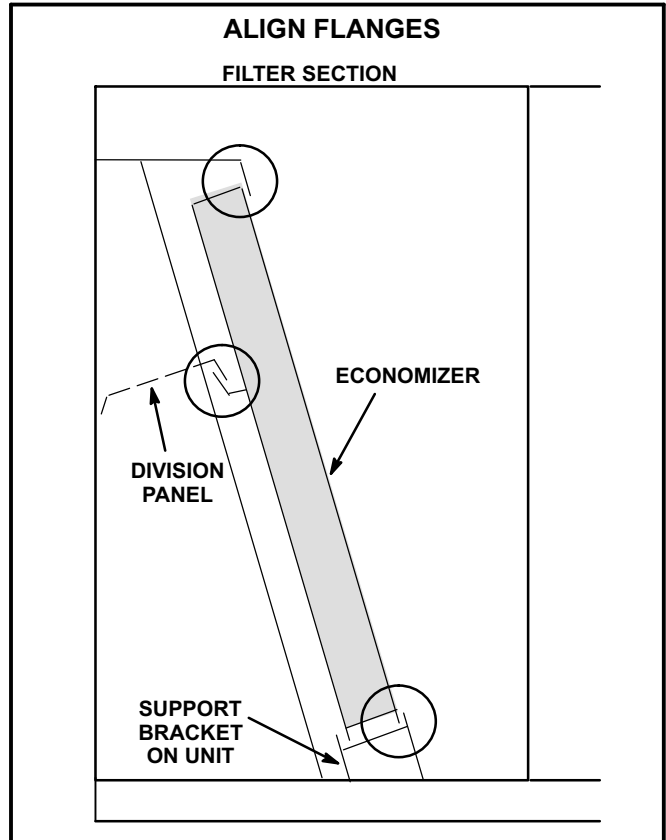
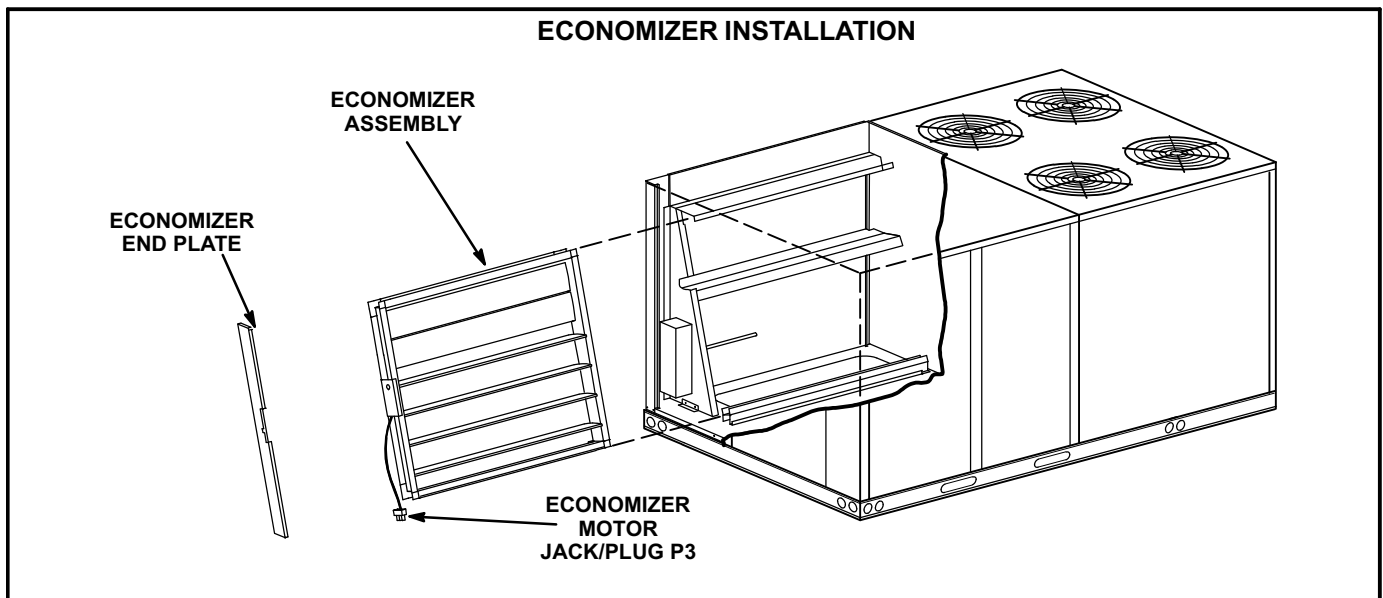

FIGURE 2
FIGURE 1
- 3- Align bottom of economizer with economizer support bracket and slide economizer into unit. See figure 1. Make sure the flanges align as shown in figure 2.
- 1- Install A6 enthalpy control on economizer side panel as shown in figure 2. Secure with #4-40 screws provided.